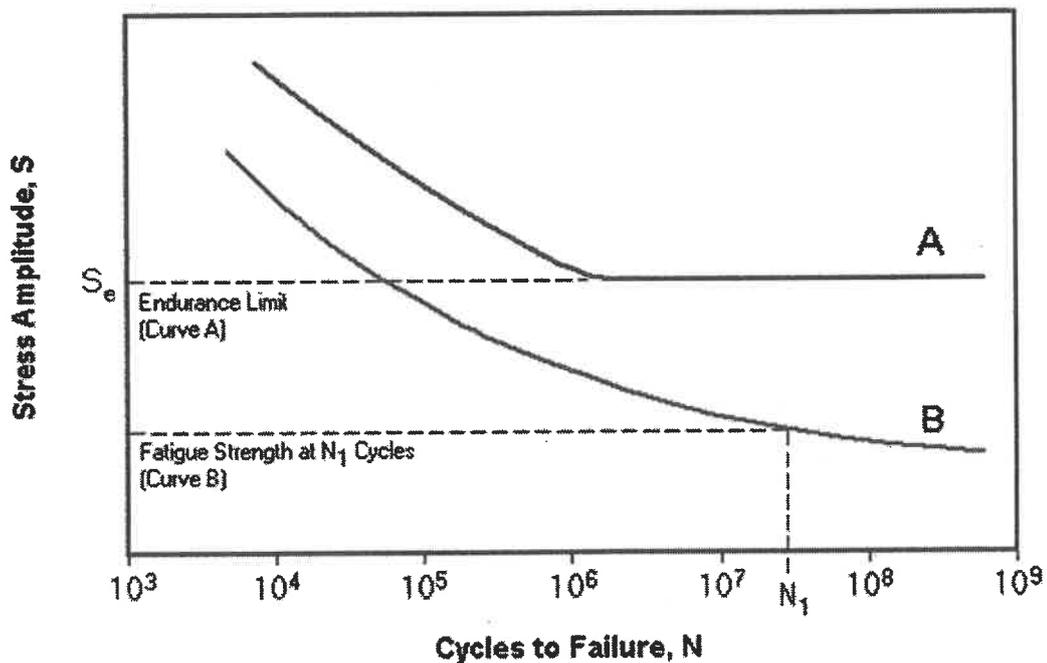

Figure 1
- (b) Fatigue can fail at any given stress level. What is the factors of fatigue failure can be extracted from the Figure 1 (6 Marks)
- (c) Describe the material A and B based on its fatigue test results shown in the Figure 1 below (10 Marks)